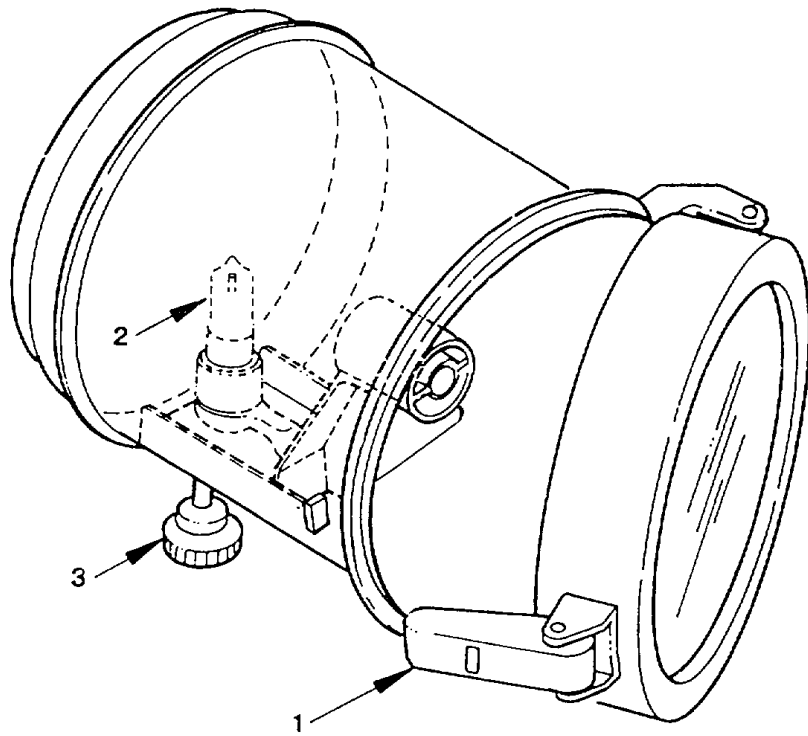

Figure 2-147. Lamp, Spotlight, Remove/Install.
- a. *Remove.* (figure 2-147)
- (1) Open the tension latch (1) to access the lamp (2).
- (2) Remove the lamp (2) by turning slightly.
- b. *Install.* (figure 2-147)
- (1) Install a new lamp (2) with the use of the small pin on the right side of the lamp holder.
- (2) After replacing the lamp, refocus it by projecting a beam on a flat surface approximately 50 feet away. Use the knob (3) at the bottom of the searchlight to focus. The searchlight is in focus when the beam pattern is smallest.